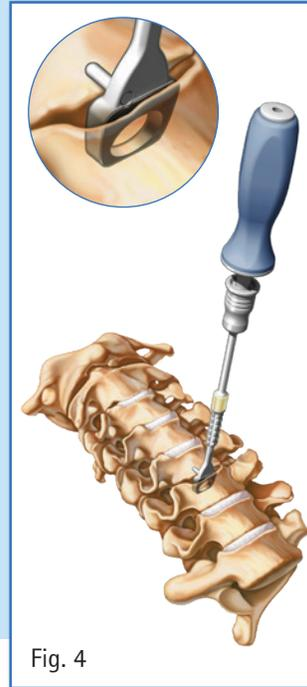

Fig. 4
4. Manipulate the trial implant as needed to attain the desired position. (Fig. 4)